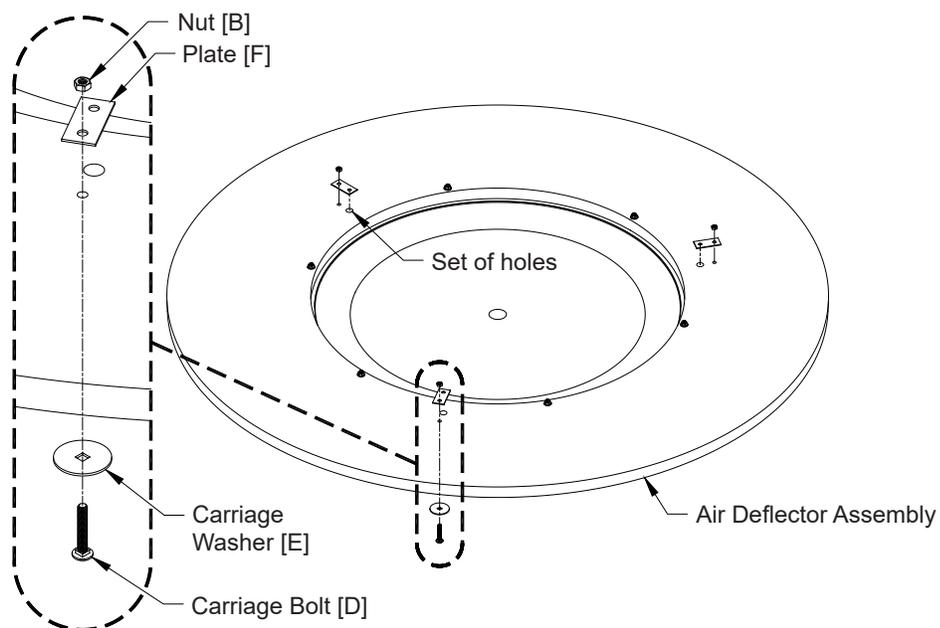

Figure 2
Turn Air Deflector Assembly over so that the Outer Ring is upward. Align (3) 30mm x 60mm Plates [F] over (3) sets of holes in Outer Ring with the 2 holes in Plate line up with holes in Outer Ring. Fasten Plates [F] to Outer Ring through the outer hole with Carriage Bolt [D], Carriage Washer [E] and Nut [B]. *See Figure 2.*